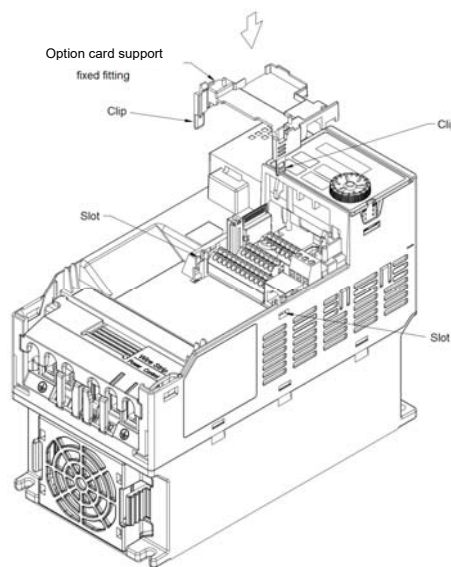

Figure 8-3
3. Assembling support frame: as shown in the Figure 8-3, aim the two clips at the two slots on the motor drive and then press downward to have the two clips engage the slots.